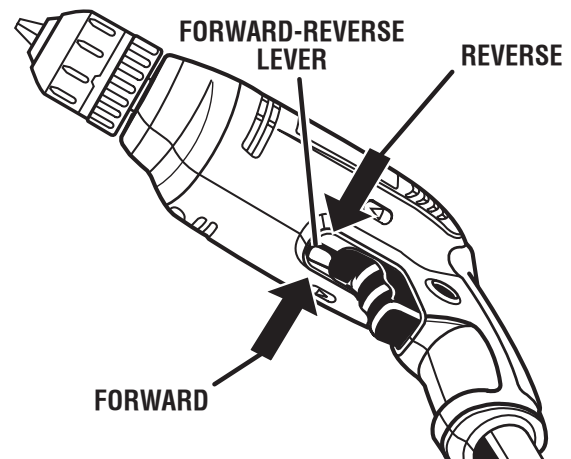

Fig. 4
See Figure 4.
- Check the direction of rotation lever for correct setting (forward or reverse). See Figure 4.